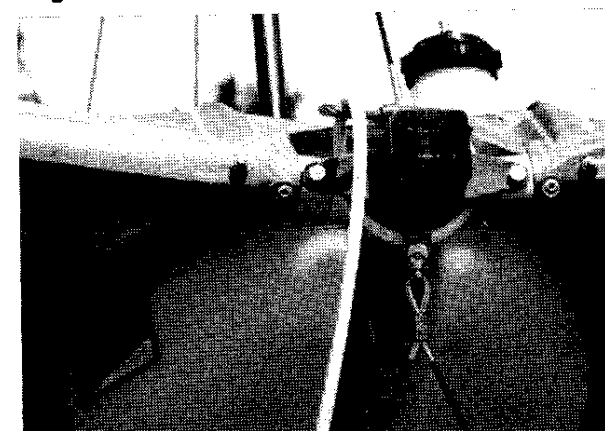

Figure 2.72
84. To attach your emergency recovery system, route the small end of parachute choker cable down through leading edge spar channel around root tube and back up through other L.E. spar channel. Route through larger thimble at other end of cable. **Figure 2.72**